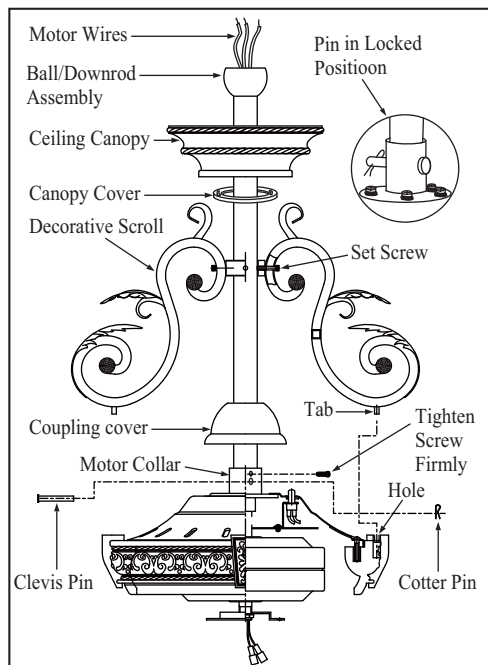

Figure 10
- Slip coupling cover, canopy cover and canopy onto downrod. Carefully reinstall hanger ball onto rod being sure that cross pin is in correct position, set screws are tighten and wires are not twisted. (Figure 10)